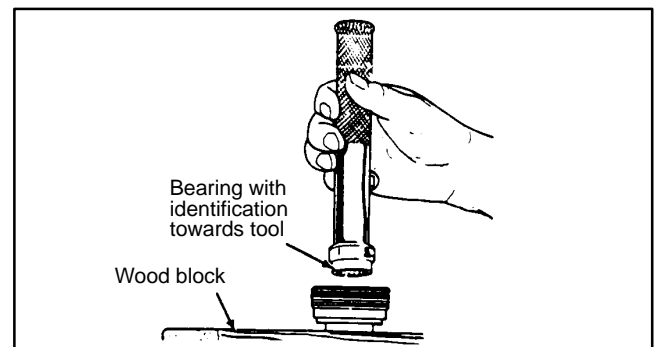

Figure 40
9. Install adjuster plug into gear housing using a spanner wrench (Fig. 40).